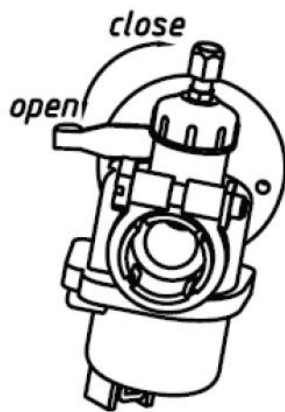

Fig 8
(4) Regulating the choke (see Fig. 8) when starting the engine in cold weather or starting it for the first tie, pull the chock handle out to shut up the air passage, when starting a hot engine ,leave the chock fully opened.
(6) Keep the choke open all the way after the engine has been started, the keep the engine running at low speed for 3-5 minutes before working.